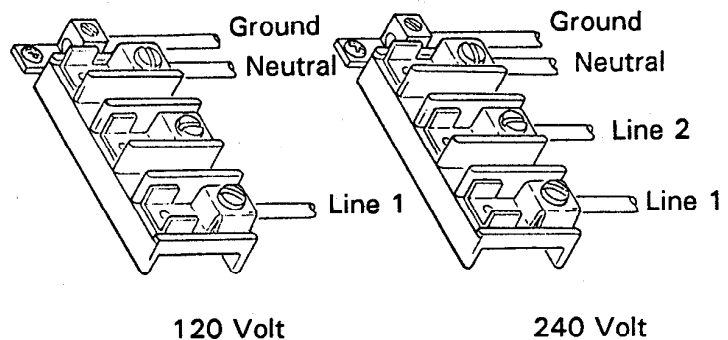

Figure 1
4. Connect input power wiring to the terminal block, as shown (Figure 1). All connections should be made with copper conductors. The conductors and circuit breakers or fuses must be sized to accommodate the total amperage load as specified on the Equipment Module data label.